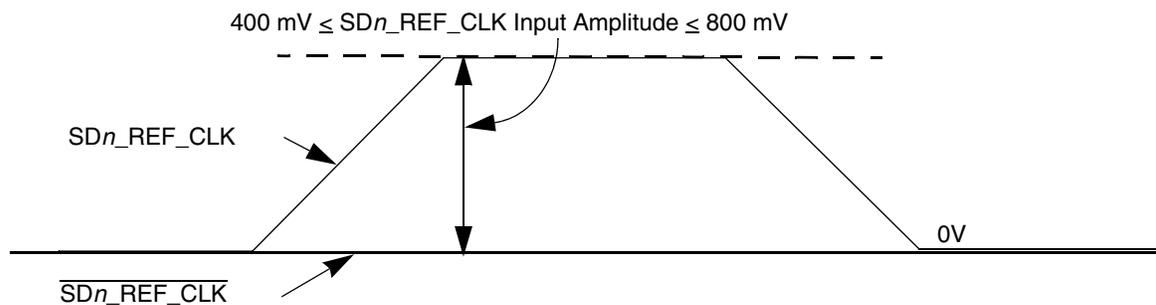

Figure 61. Single-Ended Reference Clock Input DC Requirements
- The `SDn_REF_CLK` input average voltage must be between 200 and 400 mV. Figure 61 shows the SerDes reference clock input requirement for single-ended signaling mode.